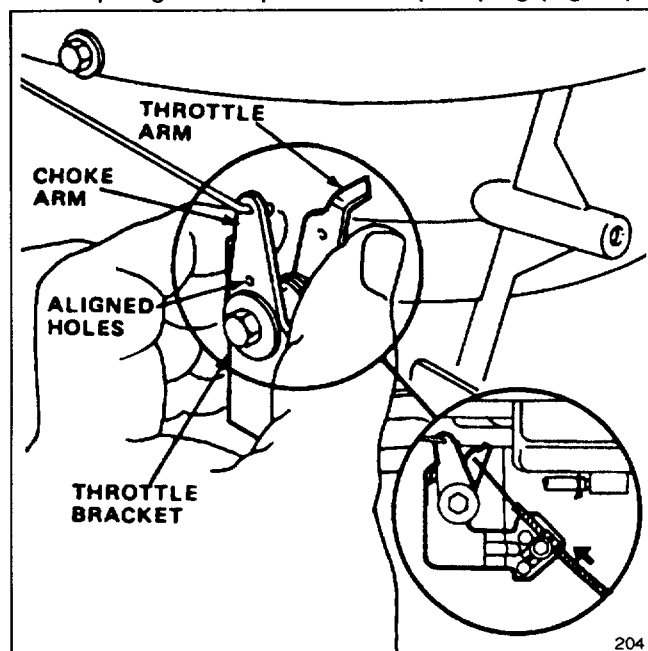

Figure 17
4. Loosen cable clamp screw until throttle cable slides (Fig. 17). Align holes in choke arm and throttle bracket. A small dia. pin may be inserted into aligned holes to hold adjustment. Push throttle cable until throttle arm makes contact with choke arm. Tighten cable clamp screw. Remove pin if used.